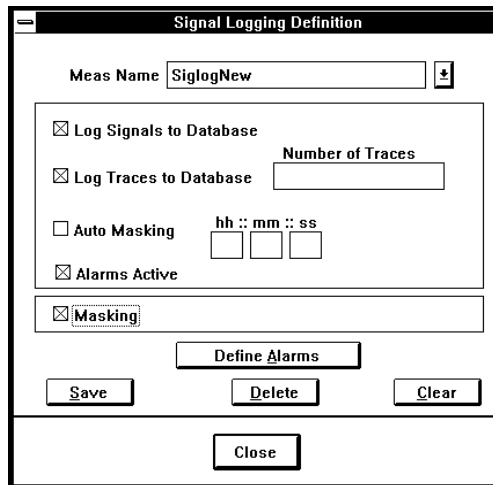

Figure 6-4: Signal Logging Definition Dialog Box
1. Click on **Signal Logging** in the **Measurement Definition** menu to open the Signal Logging Definition dialog box (Figure 6-4).